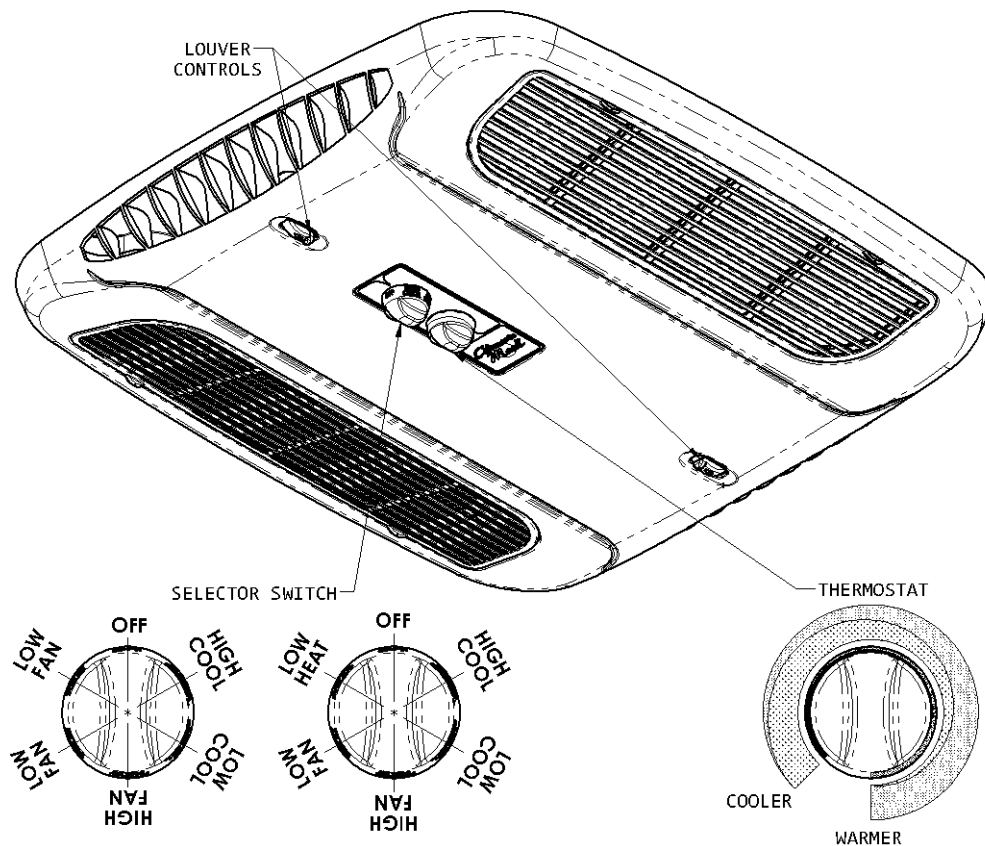

FIGURE 1
A. The Selector Switch – The selector switch determines which mode of operation the air conditioner will be in. By rotating the selector switch, the operator can obtain any system function desired. System functions vary depending upon options of both the roof top unit and ceiling assembly. Figure 1 shows selector switch location and lists all available functions by model.
For “Heat/Cool” models, the thermostat also controls the “ON” and “OFF” temperature settings of the heater assembly (See Figure 1).
- I. **For Cooling (Refer to Figure 1, page 3).**
IV. For Heating (“Elect-A-Heat” Ceiling Assembly Model Only) Refer to Figure 1, page 3).
V. For Air Circulation Only (Refer to Figure 1, page 3).